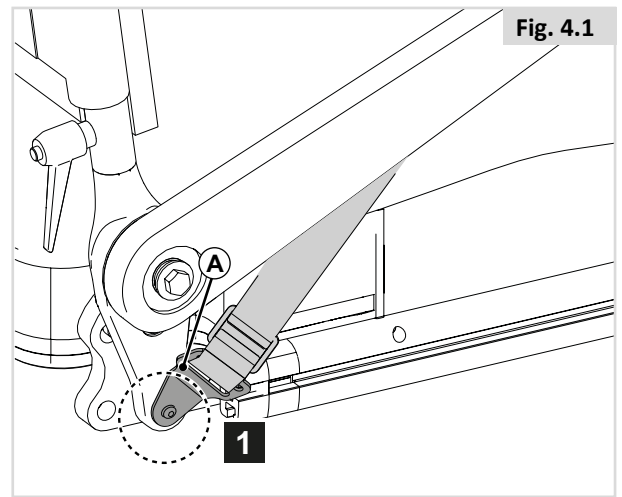

Fig. 4.2
- Adjust the lap strap to suit, leaving no more than a hand's width gap for comfort and safety (Fig 4.2).